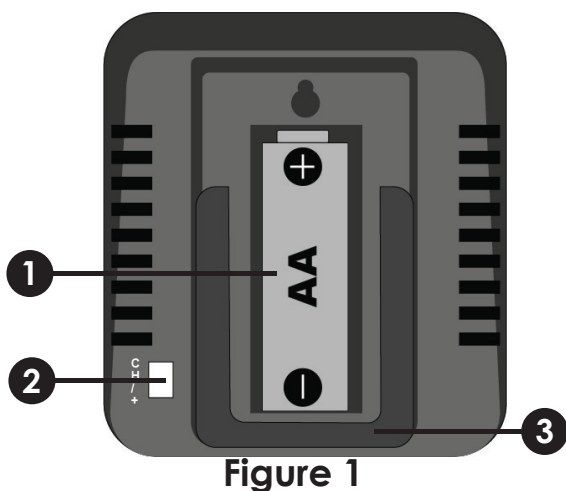

Figure 1
1. Remove the battery door on the back of the base station as, shown in **Figure 1** below.
1. Press **[CH/+]** button on the back of the thermometer base station to view the different thermometer probe temperatures. **See Figure 1.** They will display in the following sequence: